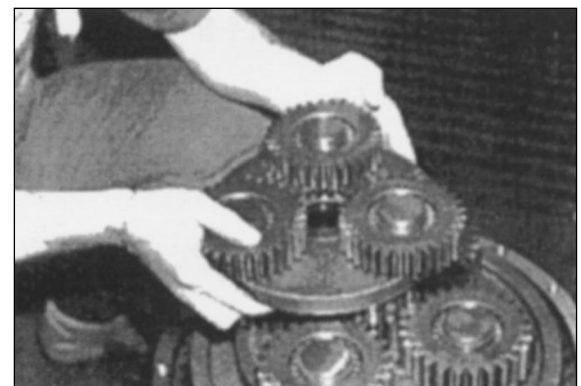

Figure 114
24. Install first shift planetary gear assembly. Figure 114.